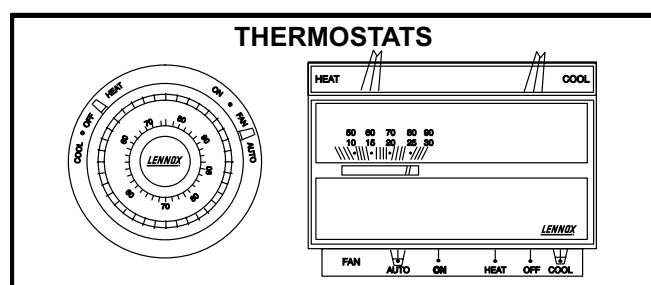

FIGURE 1
- 2 - Set the thermostat to lowest setting. See figure 1.
- 5 - Wait five (5) minutes to clear out any gas. If you then smell gas, **STOP!** Immediately call your gas supplier from a neighbor's phone. Follow the gas supplier's instructions. If you do not smell gas go to next step.